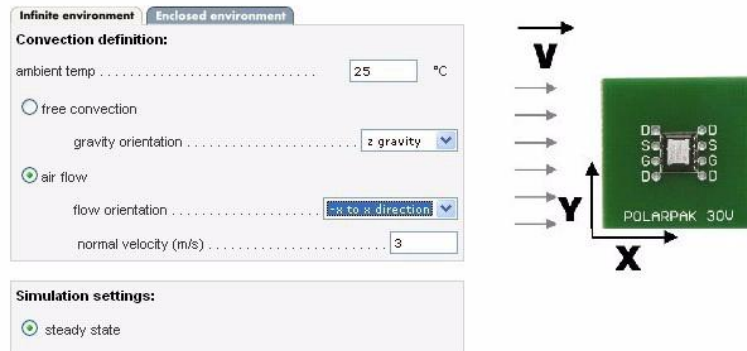

Figure 39.
- **-X to X direction** for air blowing left to right over the PCB and component (see Figure 39).